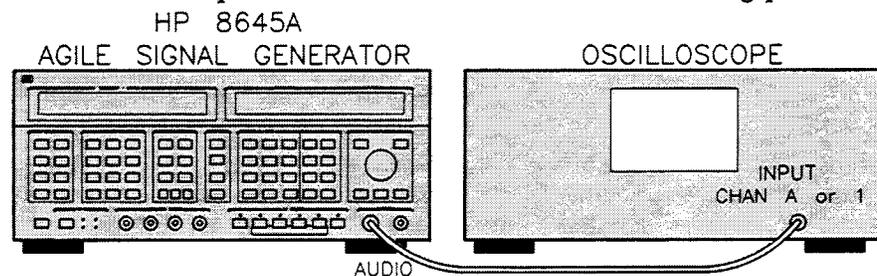

Figure H-1. Equipment Setup for the Quick Demonstration.
1. Connect the HP 8645A to the oscilloscope as shown in figure H-1. Turn on the equipment and make the following adjustments: